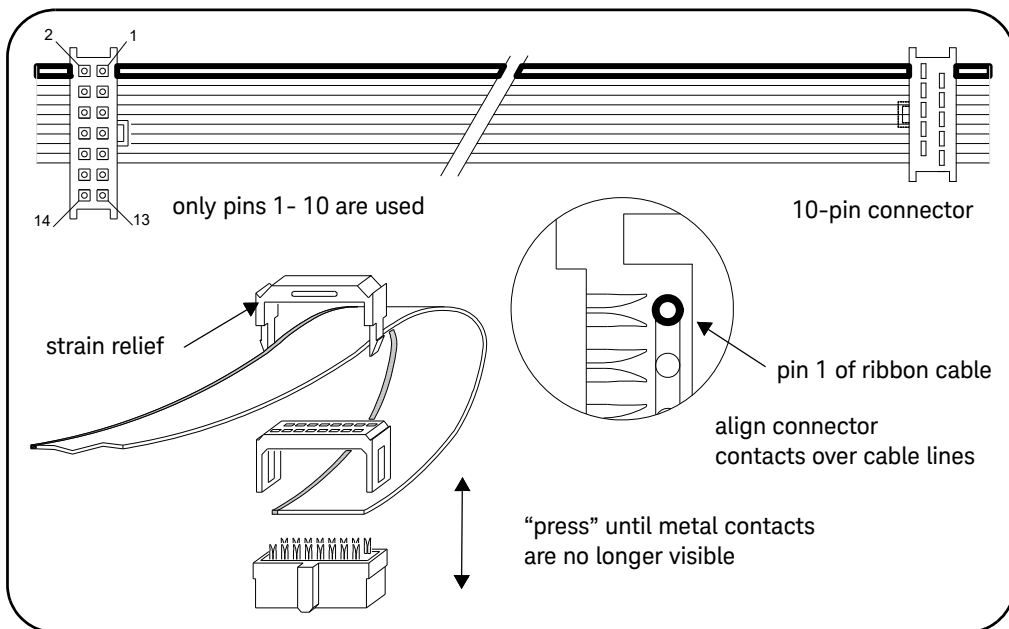

Figure 1-5 Y1158A 14-pin to 10-pin Connector Orientation and Cable Routing.
- 2 Position the ribbon cable connectors as shown in Figure 1-5. Route the cable **through** the connectors, noting the location of pin 1 on the cable. By convention, pin 1 is indicated in red (the dark line in the drawing).
- 6 Fasten the strain relief clamps over the cable and into the ribbon cable connectors as shown in Figure 1-5. Remove any excess cable after the clamps are in place.